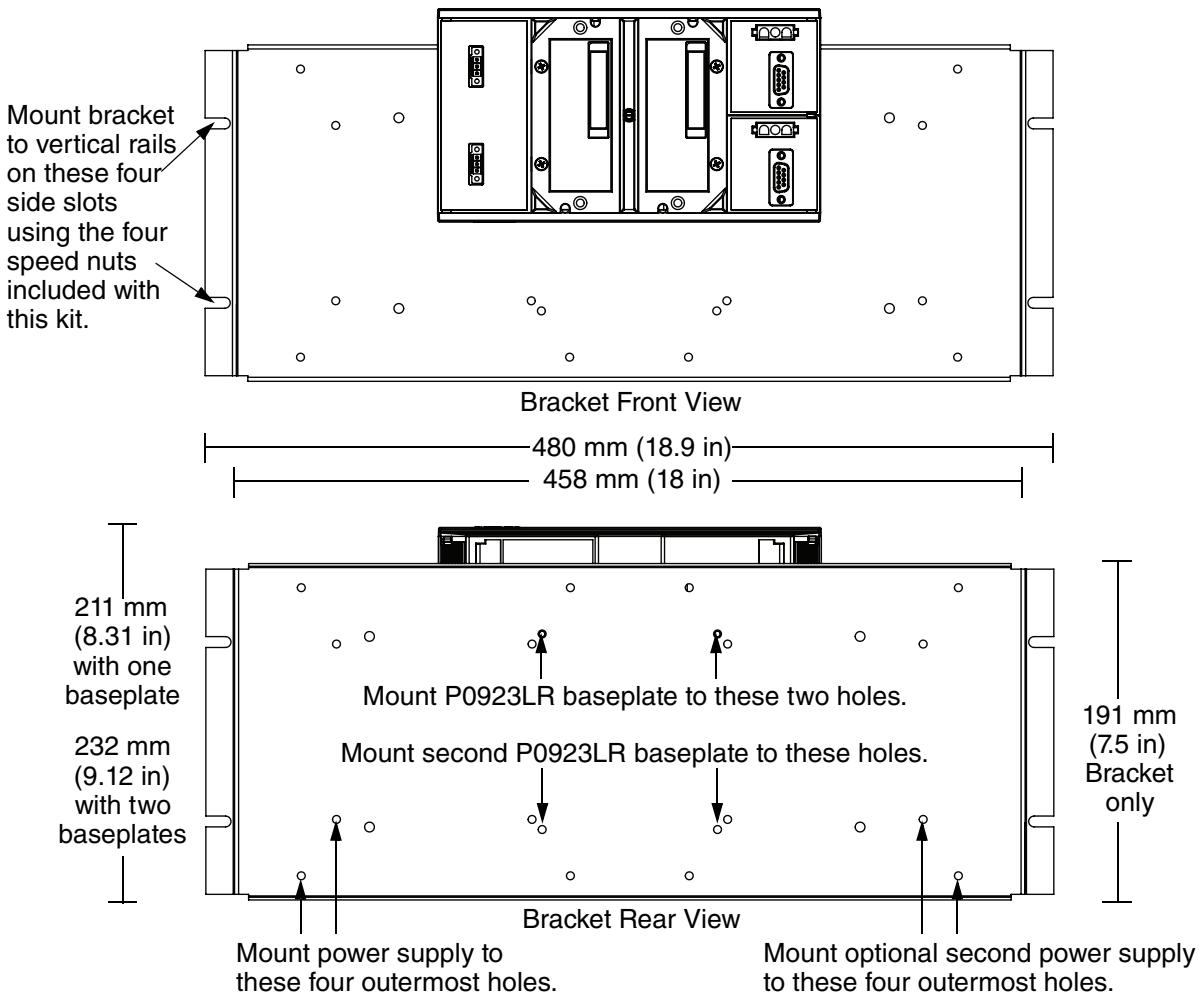

Figure 4-29. Baseplate Mounting Bracket for Two Baseplates (Kit P0926ZZ Shown)
- b. To mount two FBI100 baseplates, use the Baseplate Mounting Bracket (P0918XX, shown in Figure 4-29) from kit P0926ZZ. Install the bracket where space permits, either in the existing 19" rack or in an additional controller/network cabinet provided as part of your project.
4. Mount the FBI100 baseplates on the Baseplate Mounting Bracket on the points indicated in Figure 4-29, as discussed in “DIN Rail Mounting of the Vertical Baseplate” in *Standard and Compact 200 Series Subsystem User’s Guide* (B0400FA). Note that the baseplate will hang over the top or bottom bracket by the dimensions indicated in Figure 4-29.